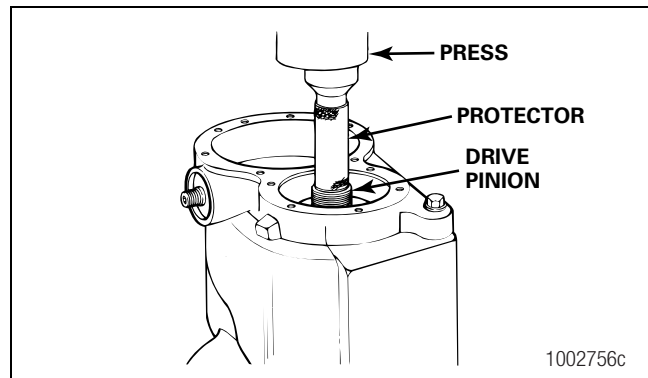

Figure 3.52
- B. Place a protector onto the top of the drive pinion shaft. Figure 3.52.